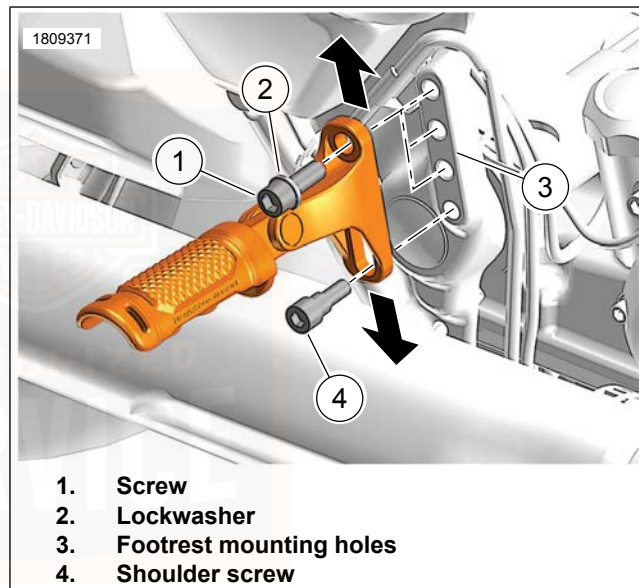

Figure 57. Passenger Footrest
1. See Figure 57. Remove upper bracket screw (1) and lock washer (2).